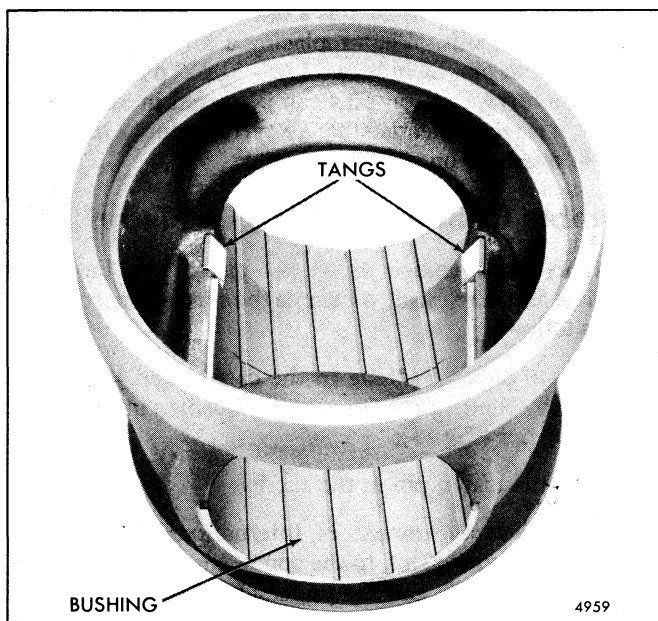

Fig. 3 - Piston Carrier and Bushing
Lubricate the piston rings and piston with the clean engine oil/STP mix before installing the rings. Refer to Figs. 3, 12 and 13 and install the piston rings.
1. Starting with the bottom ring, install the compression rings with tool J 22405-02 (Fig. 3). To avoid breaking or overstressing the rings, do not spread them any more than necessary to slip them over the piston. The compression rings have a tapered face. Make sure the side marked "Top" is toward the top of the piston.
1. Position a new bushing in the carrier and lock it in place by bending the tangs on the bushing into slots in the carrier (Fig. 3).